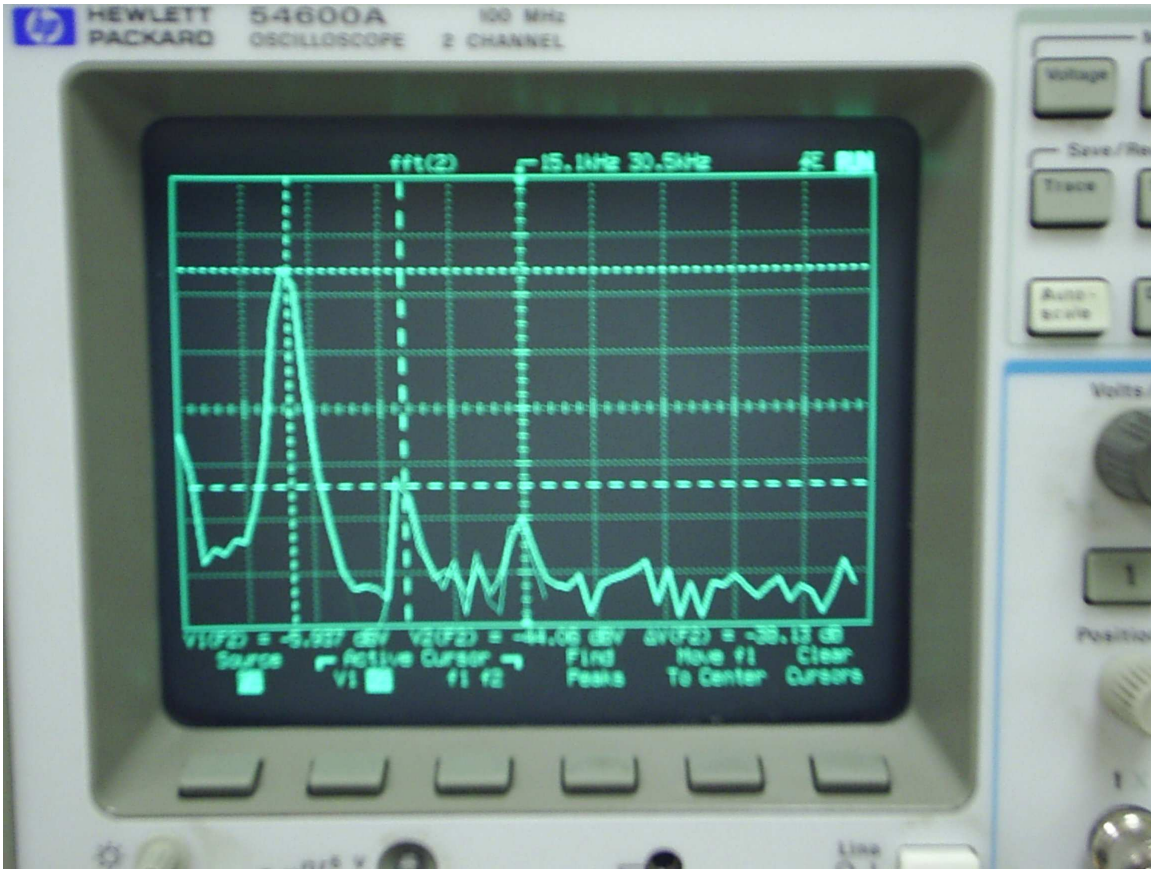

Figure 2.15: Using cursors on FFT window for THD measurements
9. Push the “Cursors” button on the control panel to bring up the cursor menu at the bottom of the screen. Under “Active Cursor” toggle until “ $f1$ ” is highlighted. Turn the cursor knob until the vertical cursor on screen is at the operating frequency (this should be the largest peak). Then toggle the active cursor to “ $V1$ ”. Turn the cursor knob until the horizontal cursor is at the top of the operating frequency’s peak. Toggle the active cursor to “ $f2$ ” and move the cursor to the second harmonic. For an operating frequency of 5 kHz, the second harmonic is at 10 kHz. Toggle the active cursor to “ $V2$ ” and move the cursor to the peak of the second harmonic. On the screen right below the waveform, the value absolute value of ΔV is the difference in dB between the fundamental tone and the measured harmonic. See figure 2.15. Record this value. Leave “ $f1$ ” and “ $V1$ ” at the operating frequency and move “ $f2$ ” and “ $V2$ ” to the next harmonic. Record its $|\Delta V|$ in dB. Repeat for a total of 5 harmonics.